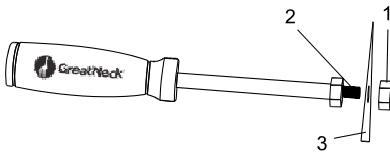

Fig. 2
1. Remove the outer nut (1) from the scraper handle (2) (Fig. 2).
2. Place the appropriate scraper profile (3) onto the threaded portion of the scraper handle.